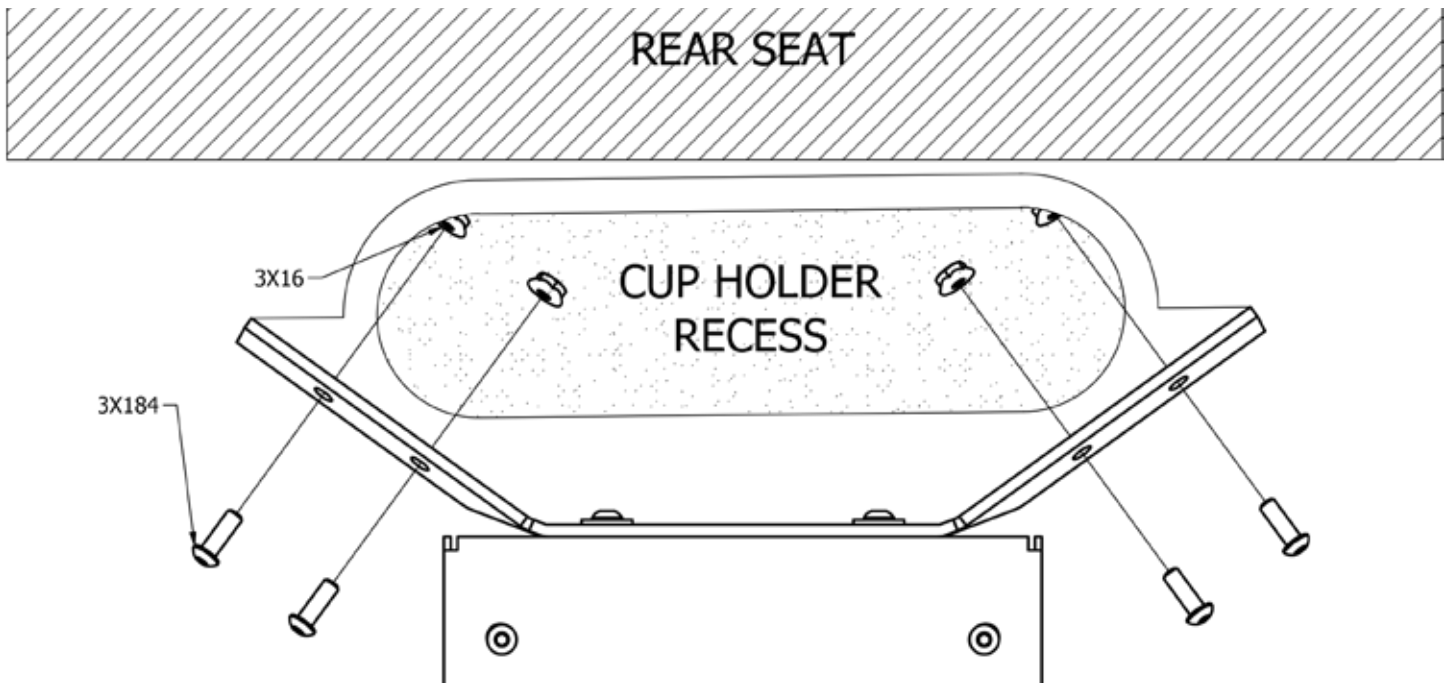

Figure 2.
- Place the base flush against the bottom of the cup holder, and use the hole locations to mark drill locations. Then use a 5/16 drill bit to bore the holes that will be used to attach the base using 3X184 bolts and 3X16 whiz nuts. Make sure to remove any burrs. Refer to Figure 2.